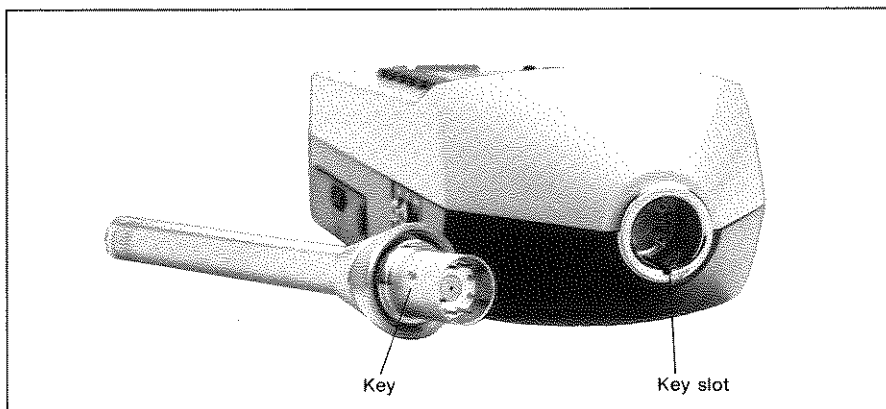

Fig. 2.4. Connection of the Input Stage ZC0020 to the sound level meter
3. Insert the Input Stage ZC0020 into the input stage socket: make sure that the key follows the key slot correctly (see Fig. 2.4).